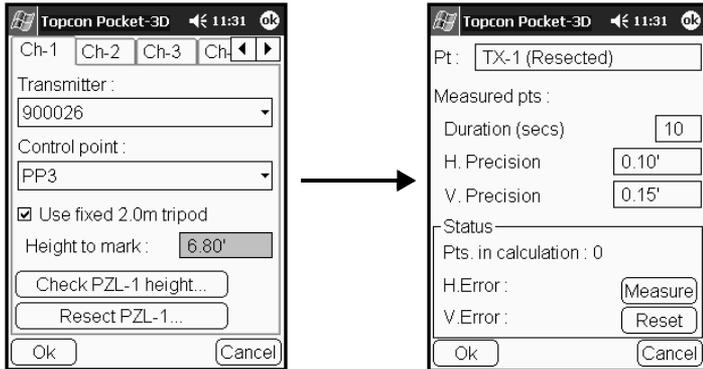

Figure 4-2. Begin Resection
4. In Pocket-3D, tap **Setup ▶ LaserZone transmitters** and tap the tab that corresponds to the channel of the transmitter (Figure 4-2).
5. Press **Resect PZL-1** (Figure 4-2).
6. If desired, enter the following measurement parameters on the *resection* dialog box (Figure 4-2).